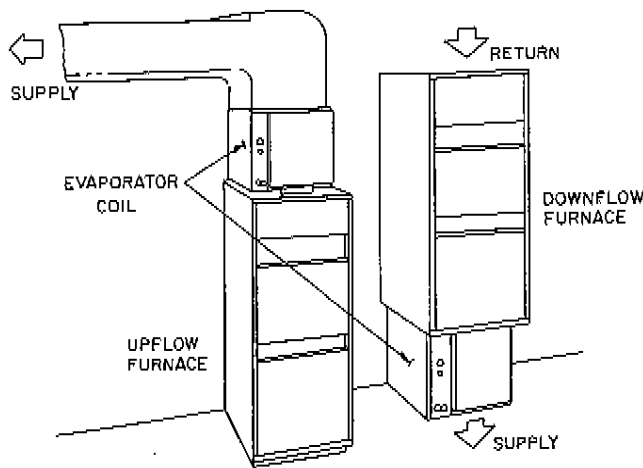

Fig. 2—Typical Installations, CD5A/CD5B Coil
2. Set coil in place on upflow furnace discharge air opening. (See Fig. 2.)
Place coil on furnace supply air opening using same methods described for coil placement on upflow furnace discharge air opening. (See Fig. 2.)